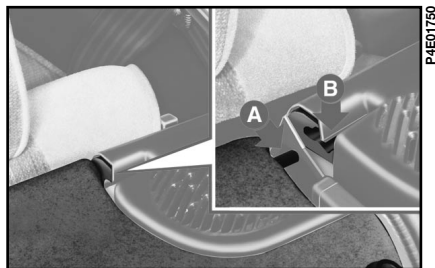

fig. 62
2) Free the cover pins **A**-fig. 62 from their seats **B** and remove it.